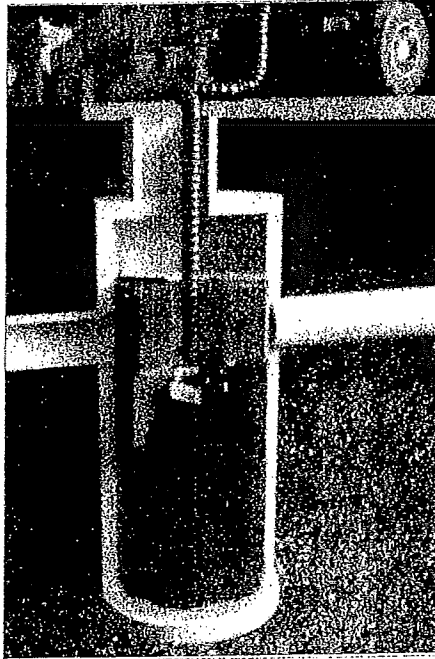

Fig.4 Floatables are removed with a vactor hose (First Defense model FD-4, shown).
3. Without entering the vessel, look down into the chamber to inspect the inside. Make note of any irregularities. Fig.4 shows the standing water level that should be observed.